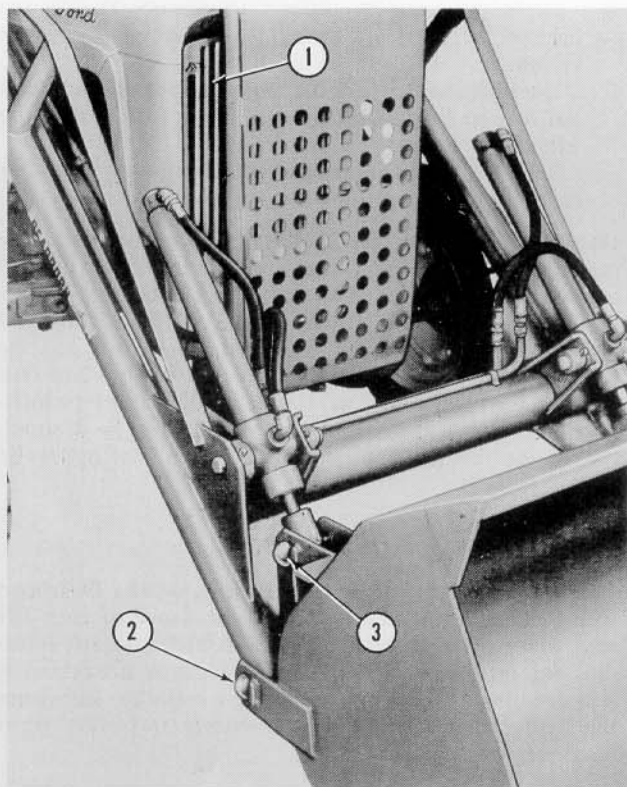

Figure 13
- c. Insert the grille between the tractor hood and the loader bumper (See (1), Figure 13) and reinstall on the tractor with the bolts and nuts provided.
- a. Position the bucket as shown and secure to the loader lift arms with the two long pivot pins (2), Figure 13, and cotter pins provided.
- b. Attach each cylinder ram to the bucket with two pivot pins (3), Figure 13, and the cotter pins provided. The lubrication fittings on the rams should be turned up as shown.